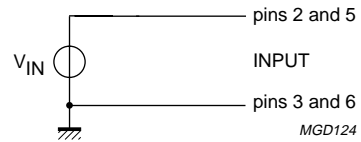
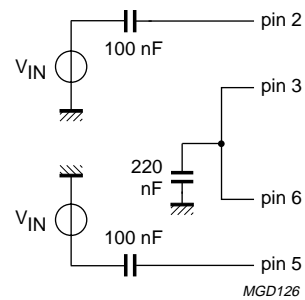
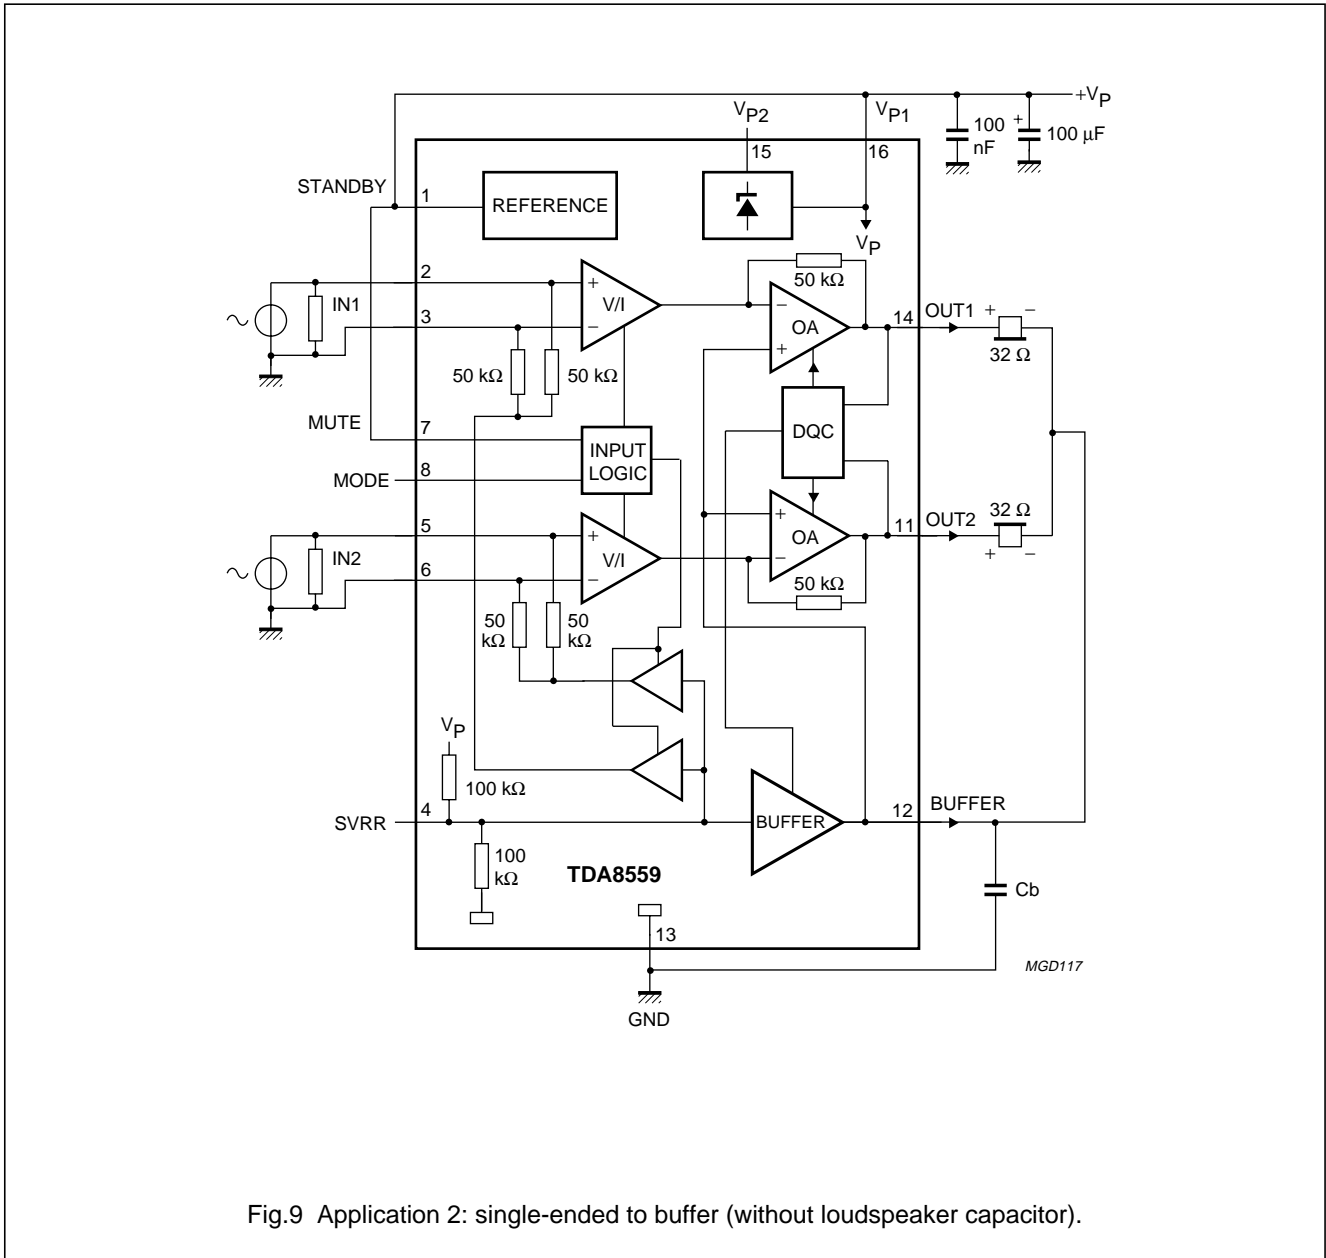

Fig. 4 Input configuration; without input capacitor ($V_P < 6\text{ V}$).
Fig. 6 Input configuration (at $V_P > 6\text{ V}$, combined negative inputs).
Fig.9 Application 2: single-ended to buffer (without loudspeaker capacitor).
The standard application is stereo headphone single-ended with a 32Ω load impedance to buffer (see Fig.9). The headphone amplifier can deliver a peak output current of 150 mA into the load.
- The graphs for the single-ended application have been measured with the application illustrated in Fig.9; input configuration for input mode low (Fig.4) and input configuration for input mode high (Fig.6).
- The graphs for the BTL application 'input mode low' have been measured with the application circuit illustrated in Fig.11 and the input configuration illustrated in Fig.4.
- The graphs for the line-driver application have been measured with the application circuit illustrated in Fig.13 and the input configuration illustrated in Fig.6; input mode high.
Application 2: SE to buffer (without loudspeaker capacitor) (see Fig.9)